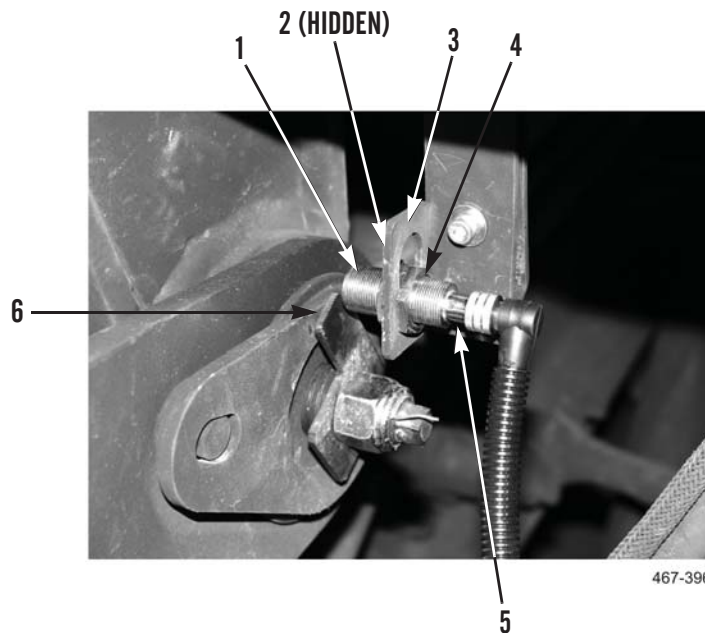

Figure 55. Middle Frame Sensor Calibration.
6. Loosen nut (Figure 55, Item 2) on middle frame sensor (Figure 55, Item 1) and adjust nut (Figure 55, Item 4) until face of sensor (Figure 55, Item 1) is 1/16 to 3/16 in (2 to 3 mm) from sensor plate (Figure 55, Item 6).
7. Slide middle frame sensor (Figure 55, Item 1) on bracket (Figure 55, Item 3) toward sensor plate (Figure 55, Item 6) and identify position where sensor light (Figure 55, Item 5) turns on. Tighten nut (Figure 55, Item 2) at that position.